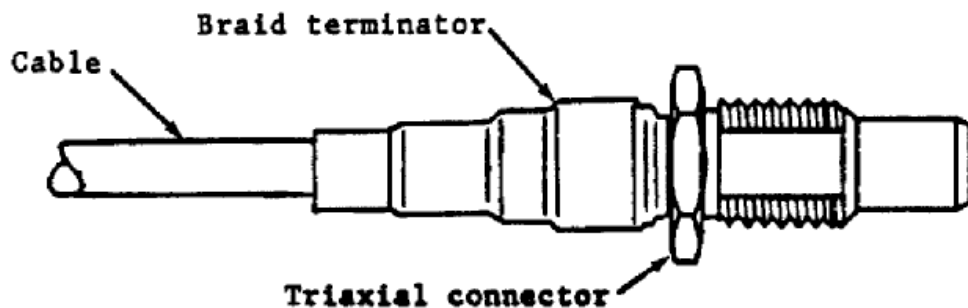

Figure 5-18
4. Slide the braid terminator over the rear of the D-621 connector and over the braid, until it bottoms against the D-621 connector (Figure 5-18).